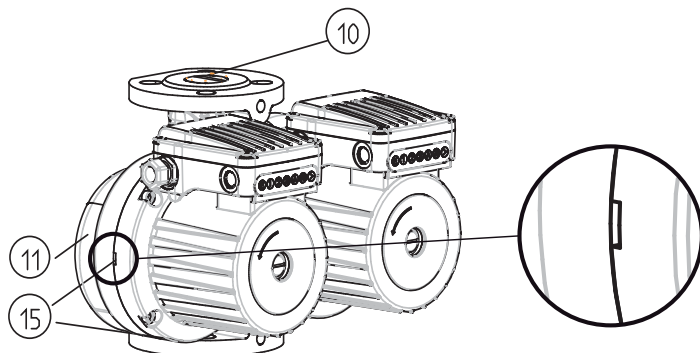

Fig.3
- SCRFD (basic, auto), SCRFED (basic, auto) pumps have double hydraulic casing (Fig.3 – POS.11), where a tiltable flap is built-in (Fig.3 – POS.10), tilting automatically, depending on the flow direction of one or another pump.